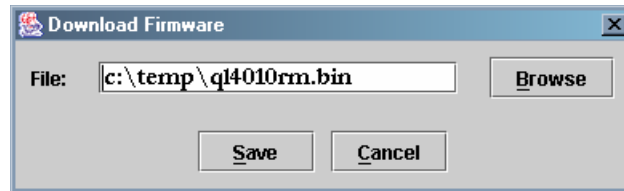

Figure 57 Download firmware dialog
3. In the dialog that appears, as shown in Figure 57, type in the path to the firmware file that you want to load to the HBA, and click **Save**.